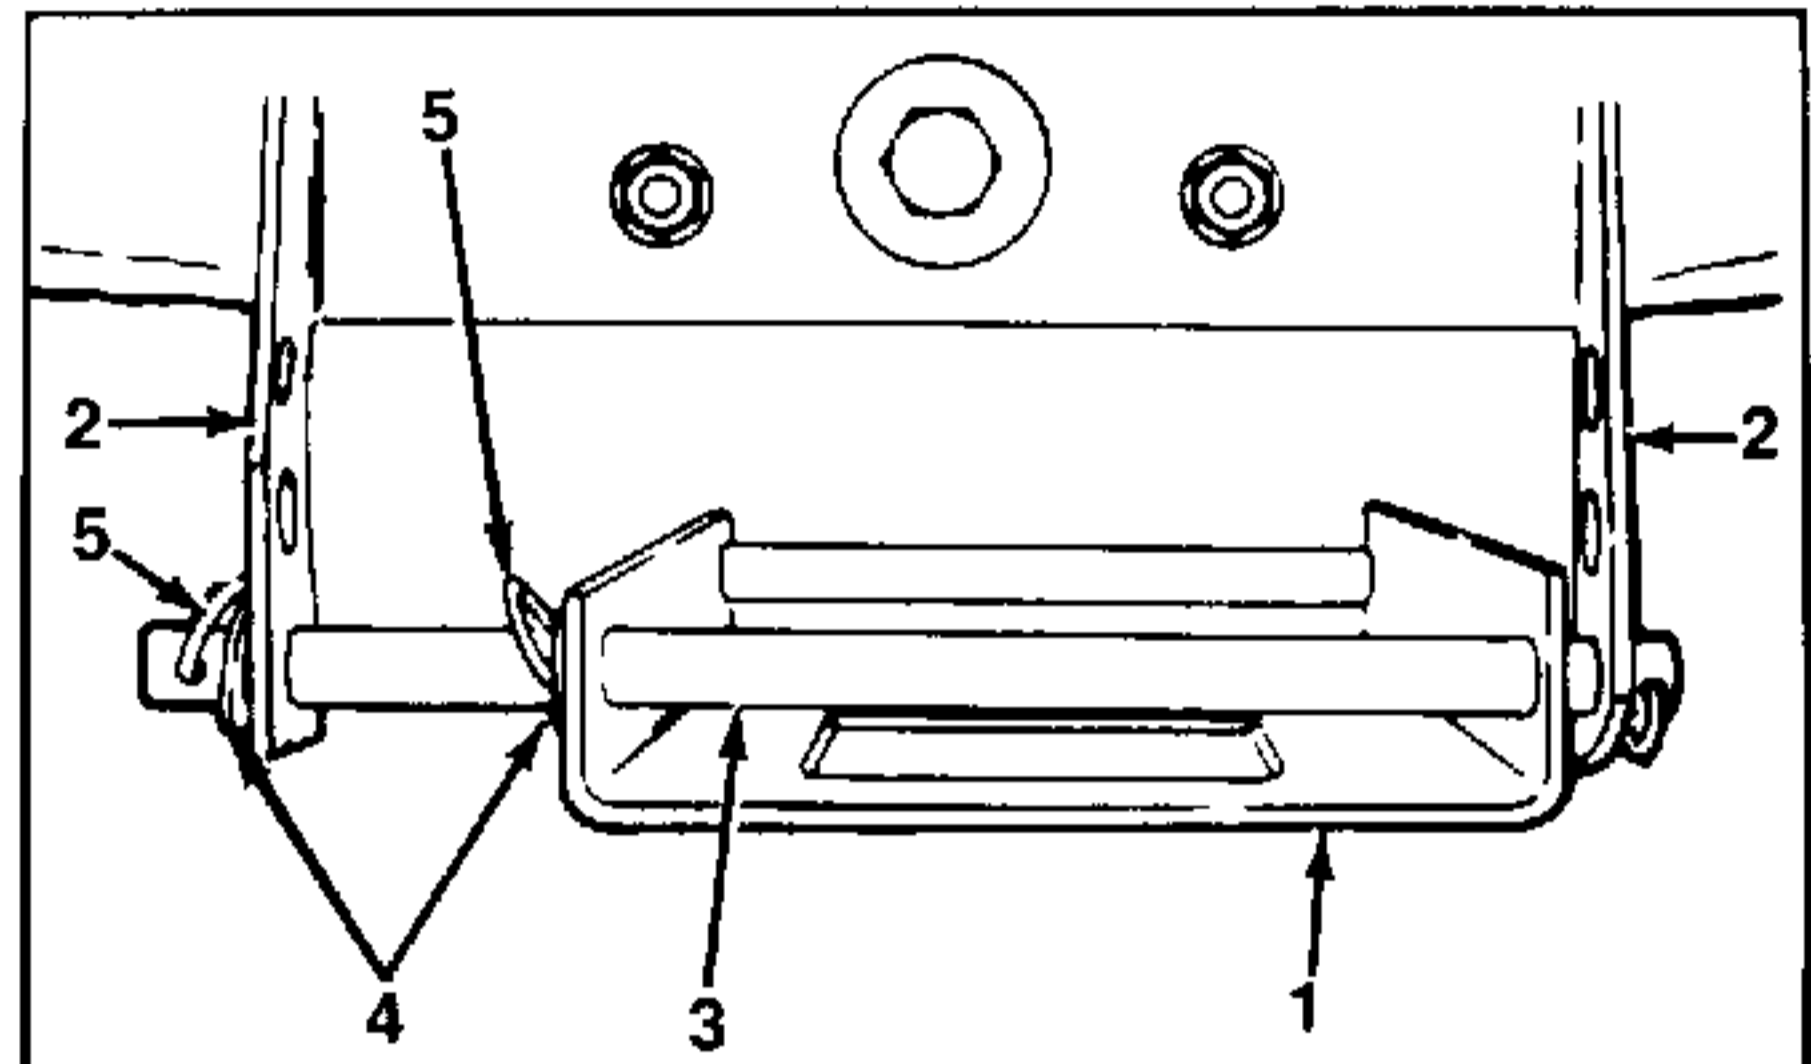

FIGURE 9.
9. With the left front wheel turned to the left, attach the front hanger assembly to the front hanger bracket by passing the tractor hanger rod through the bottom mounting holes of the front hanger bracket. Remember to attach the central flat washer to the rod after it passes through the right side of the front hanger assembly. Refer to figure 9. Secure the tractor hanger rod with flat washer and hairpin cotteners.